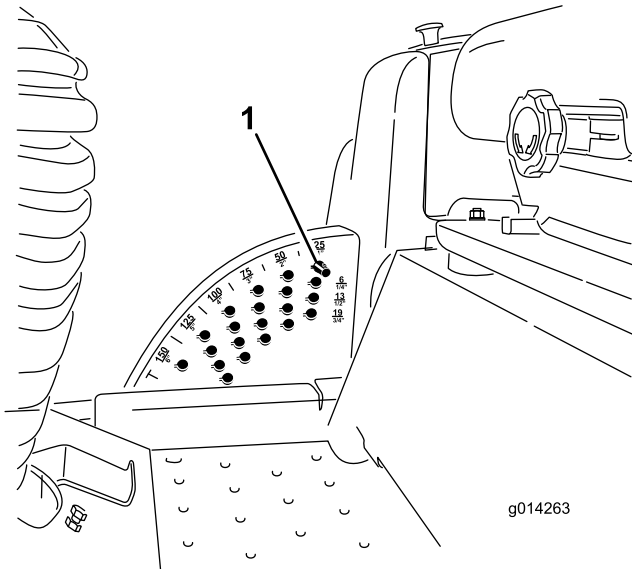

Figure 16
remove the height of cut stop pin (refer to Adjusting the Height-of-Cut), and place the pin in the 15 cm (6 inch) height-of-cut position (Figure 16).
1. With the engine running, push back on the deck lift switch until the mower deck is fully raised and **release the switch immediately** (Figure 16).
2. To adjust, rotate the stop pin until the nub on it lines up with the slots in the holes in the height-of-cut bracket and remove it (Figure 16).
3. Select a hole in the height-of-cut bracket corresponding to the height-of-cut desired, insert the pin, and rotate it down to lock it in place (Figure 16).
Note: There are four rows of hole positions (Figure 16). The top row gives you the height of cut listed above the pin. The second row down gives you the height listed plus 6 mm (1/4 inch). The third row down gives you the height listed plus 12 mm (1/2 inch). The bottom row gives you the height listed plus 18 mm (3/4 inch). For the 15.8 cm (6 inch) position there is only one hole, located in the second row. This does not add 6 mm (1/4 inch) to the 15.8 cm (6 inch) position.